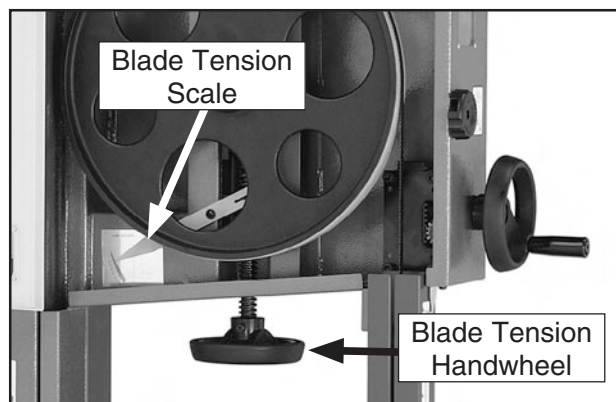

Figure 22. Blade tensioning controls.
3. Engage the quick tension lever and turn the blade tension handwheel until the tension scale (**Figure 22**) reads between 4 and 6.